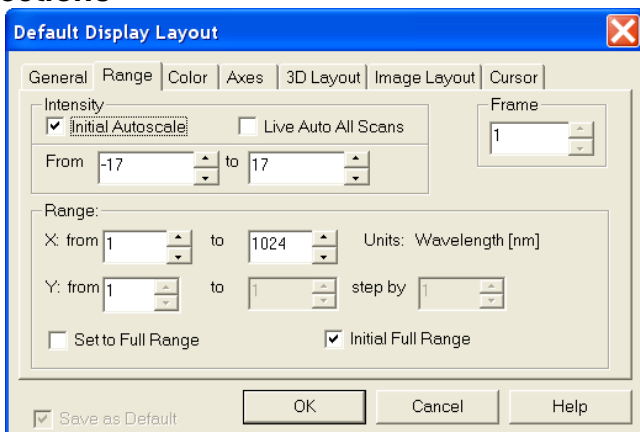

Figure 98. Display Layout/Range tab
2. Click on the **Range** tab (Figure 98). **Initial Autoscale** and **Set to Full Range** should be selected. The Frame number should be "1."